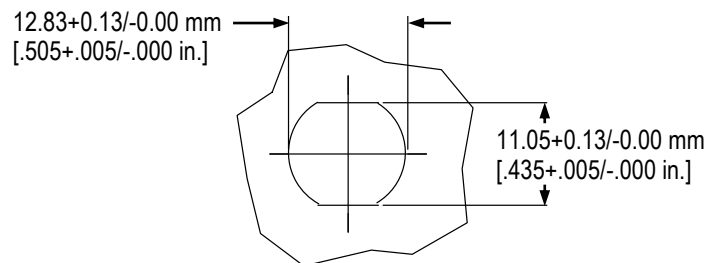

Figure 5
1. Cut the panel to the dimensions given in Figure 5.